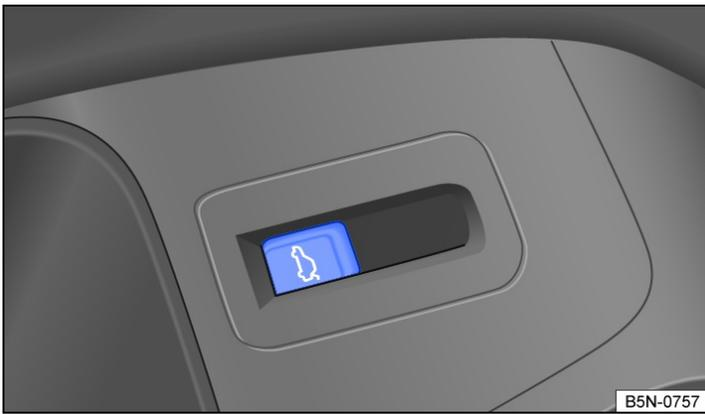

Fig. 1 In the driver door: release button for the boot lid.
- OR: pull the  button in the driver door upwards → Fig. 1.